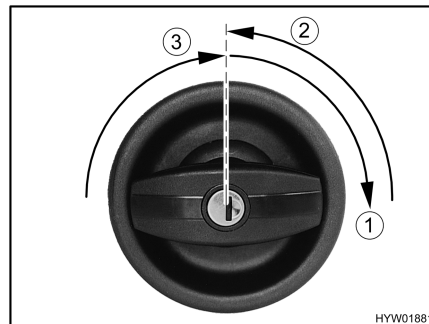

Fig. 11 Door lock of conversion door, outside, opening
- Insert the key into locking cylinder and turn in a clockwise direction (Fig. 11,1) until the door lock is unlatched.
- Return the key to the central position (Fig. 11,2) and remove it.
- Turn the door knob in a clockwise direction (Fig. 11,3) until the door lock is unlatched.